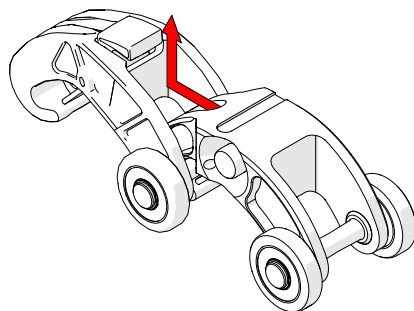

Fig. 75 - Slide link forward and lift
2. While pressing the button, slide the dovetail QuickLink forward and up, clearing the hook of the dovetail QuickLink from the QuickLink's axle (*Fig. 75*).